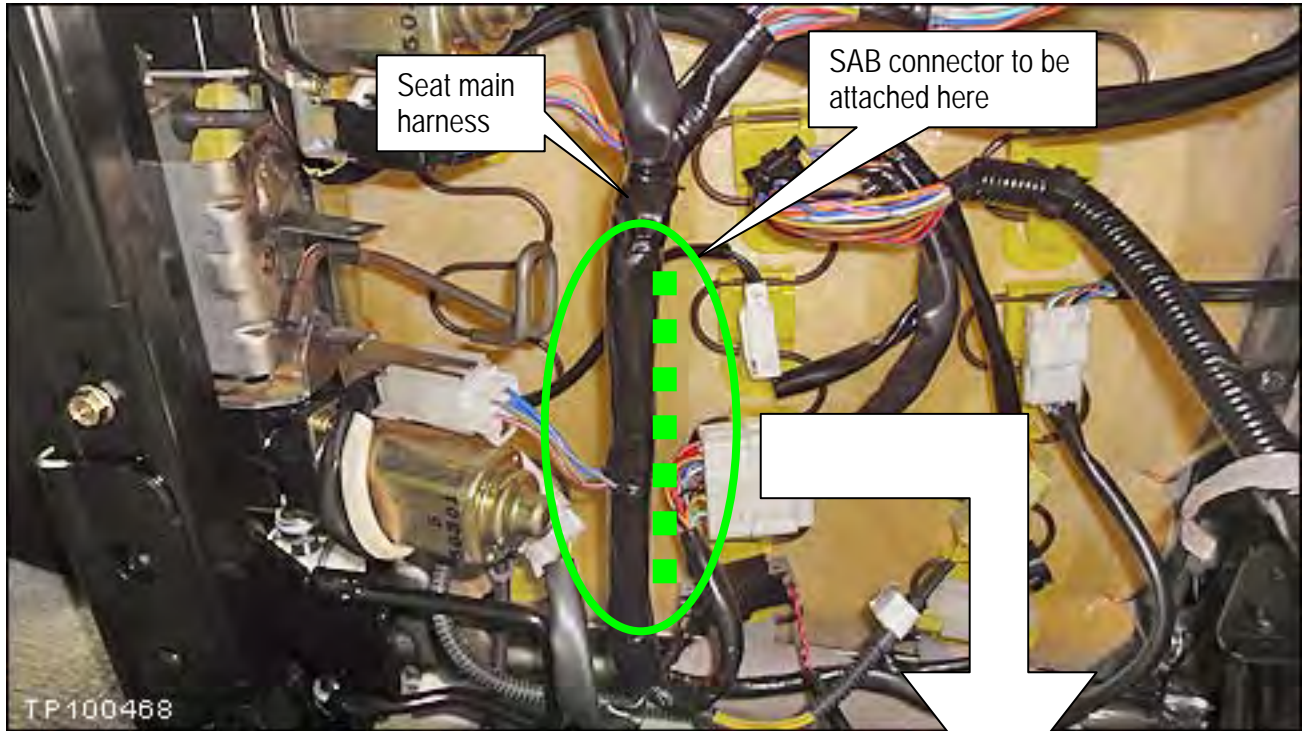

Figure 7b
- a. First, use tie-wraps to secure the SAB connector to the main harness (see Figures 7b, 8b and 9b).